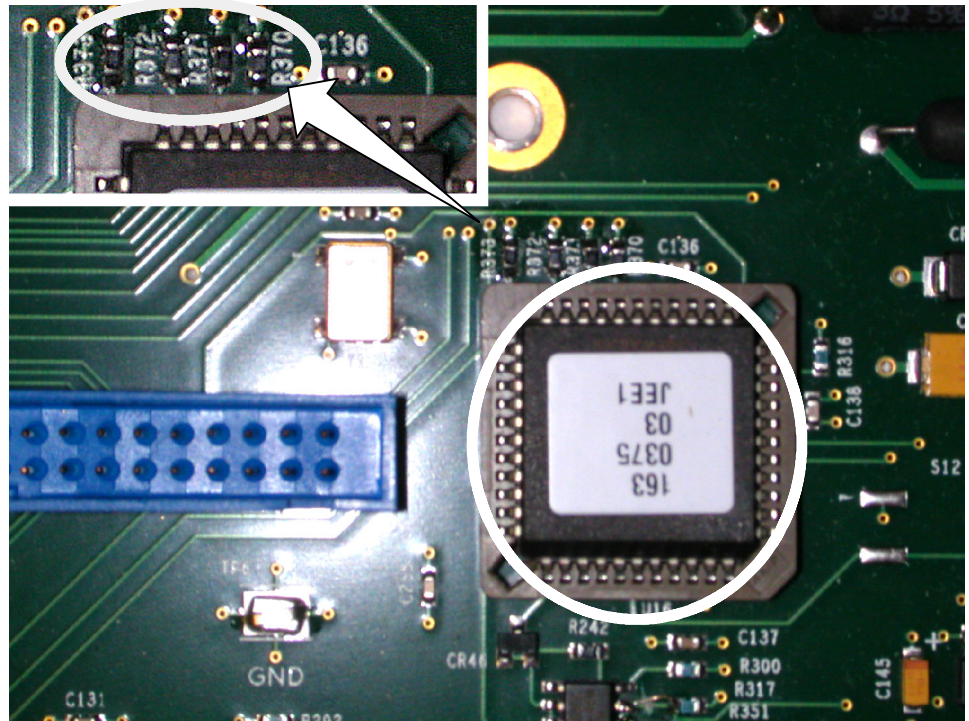

Figure 5: R370, R371, R372, R373 and U16 Locations
3. Use a surface mount soldering station to install R370, R371, R372 and R373 on the main board as seen in Figure 5, circled in the outlet.
4. Replace A2U16 on the main board with the IC supplied in the kit, circled in Figure 5.